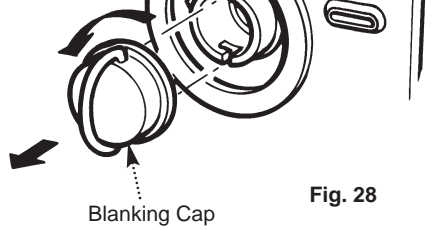

Fig. 28
2. Remove the blanking cap at the rear of the turret, by pushing and turning anti-clockwise to release the bayonet fitting (Fig. 28).